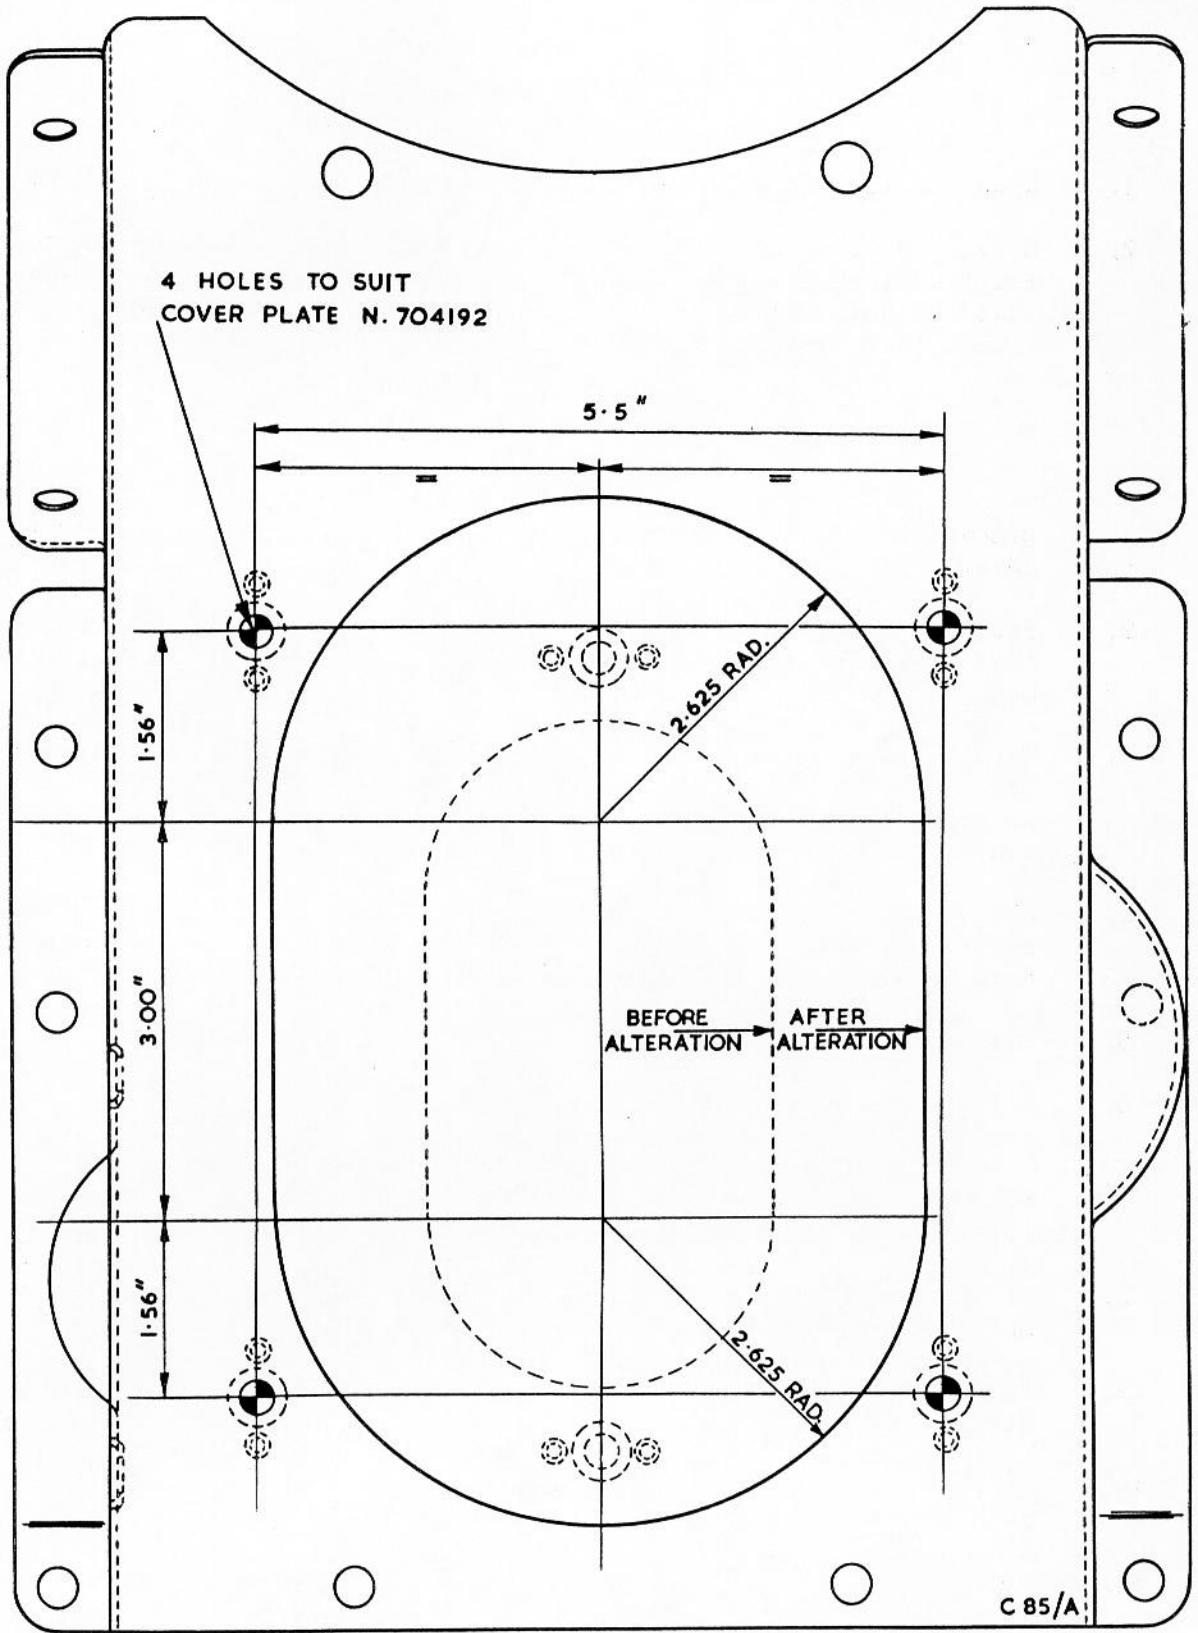

Fig.21 Alteration to gearbox tunnel.
1. Open out the existing aperture to the dimension shown in Fig.21.
2. Rivet the four nut cages (item 11) to the underside of the modified tunnel at the position shown in Fig.21. Make sure that the nuts (item 12) are in position in the cages before the rivets (item 13) are fitted.